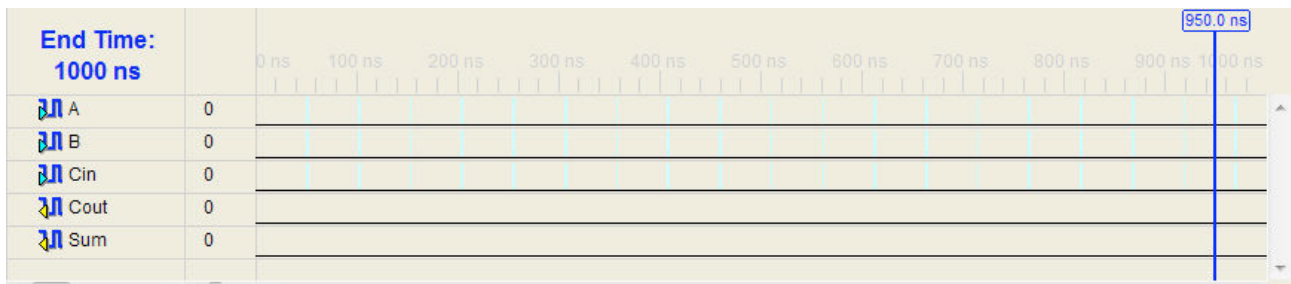

Figure 8. Test Bench Waveform
- Click **Finish** then the test bench timing diagram will appear as shown in Figure 8.